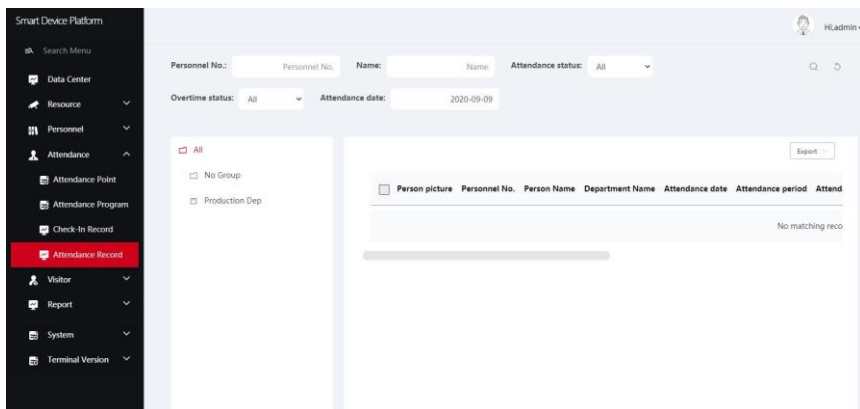

Figure 5-99
Step 1: Click "Attendance Management→ Attendance Record" on the smart terminal platform interface to enter the attendance record interface, as shown in Figure 5-99.